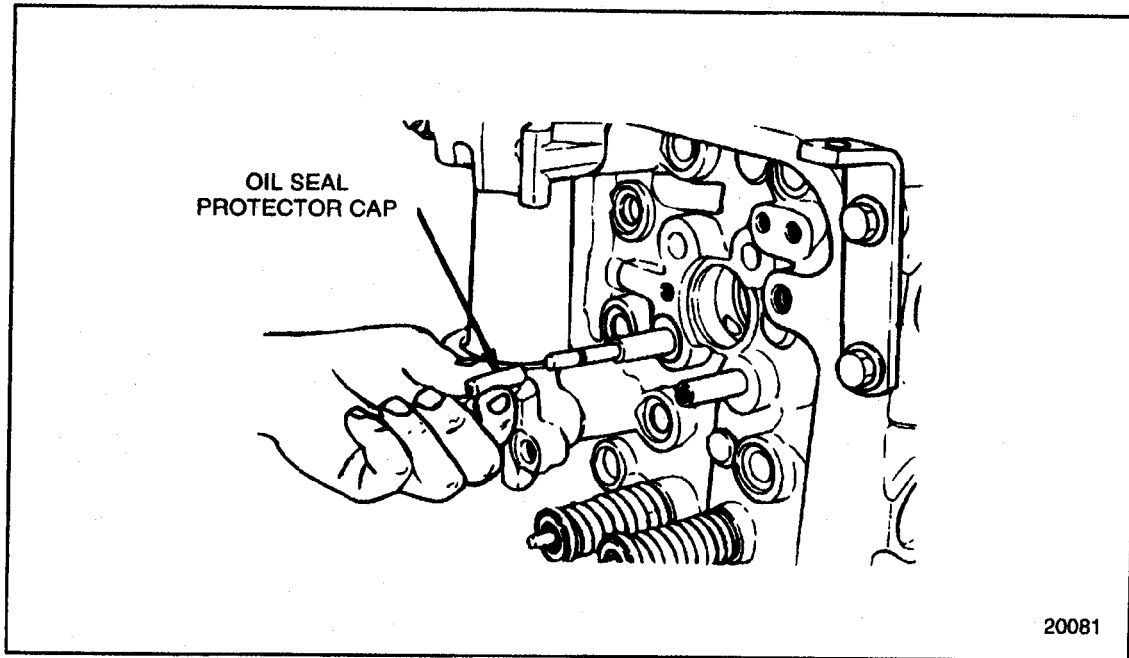

Figure 1-86 Oil Seal Protection Cap Installation
4. Install the cap over the valve stem. See Figure 1-86.